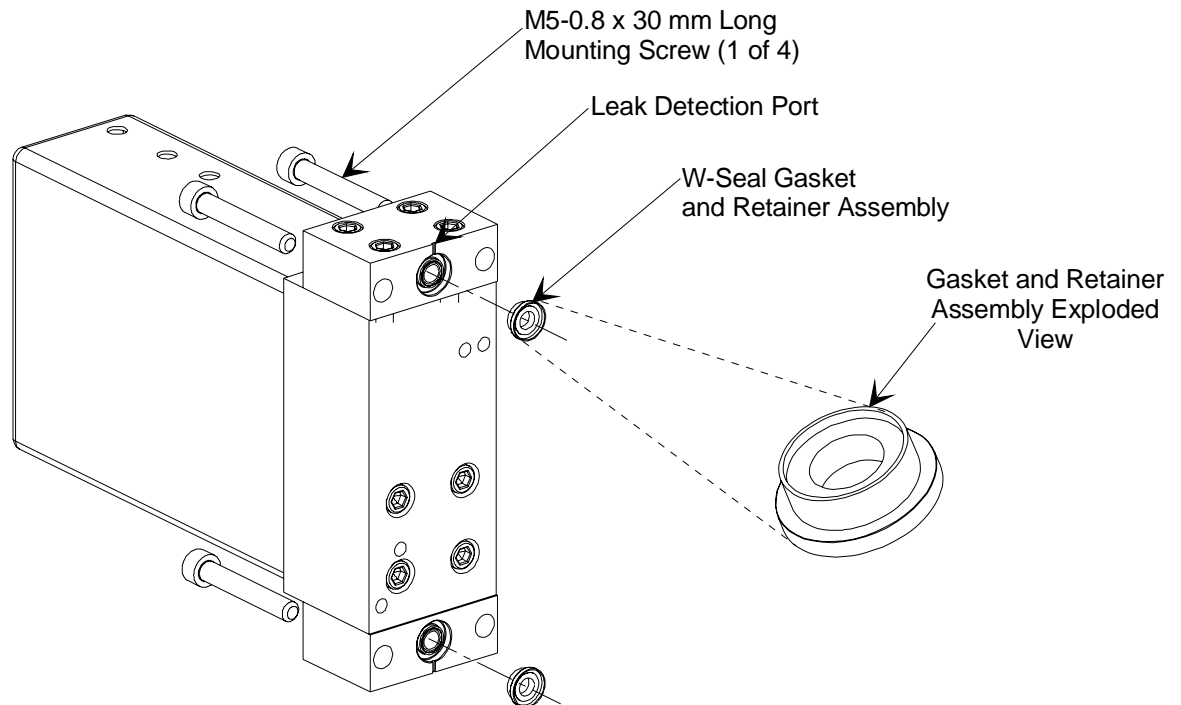

Figure 11: Exploded View of the W-Seal Components
Refer to Figure 11, page 26, for the location of the leak detection port.
Figure 11 shows the top view of the 640 Series Pressure Controller. The user adjustable controls for zero, span, the P term, the I term, and the trip points are located on the top of the controller. The trip point settings can be measured through two test jacks, located on the side of unit, as shown in Figure 4, page 18.
The Proportional (P), or gain, term is used as a constant to create a valve drive signal that is proportional to the error signal. The error signal is multiplied by the proportional control setting, thus creating a proportional valve drive signal. The higher the proportional control, the greater the change in valve drive signal. Typically, a higher proportional control setting yields a faster response. However, too high a proportional control setting will cause the pressure to oscillate around the set point. Too low a proportional control setting will result in a slow response from the controller. Figure 11 shows the effects of the Proportional term.
The Proportional (P) term adjustment is located on the top of the 640 Series unit, as shown in Figure 11, page 31. The control is a 10-position dial, though it uses only 8 values. The last positions, 8 and 9, repeat the values of positions 0 and 1. The initial setting is 0. As you increase the setting number, the value of the term increases by a factor of approximately 2.8.
The action of the Integral (I) term creates a valve drive signal that is proportional to the magnitude and sign of the area under the error signal curve (error signal with respect to time). Therefore, as time passes, the integral term acts to position the valve to reduce the error signal to zero. An increase in the integration time increases the period of time over which the error signal is generated, and the system response gets slower. Figure 11 shows the effects of the Integral term.